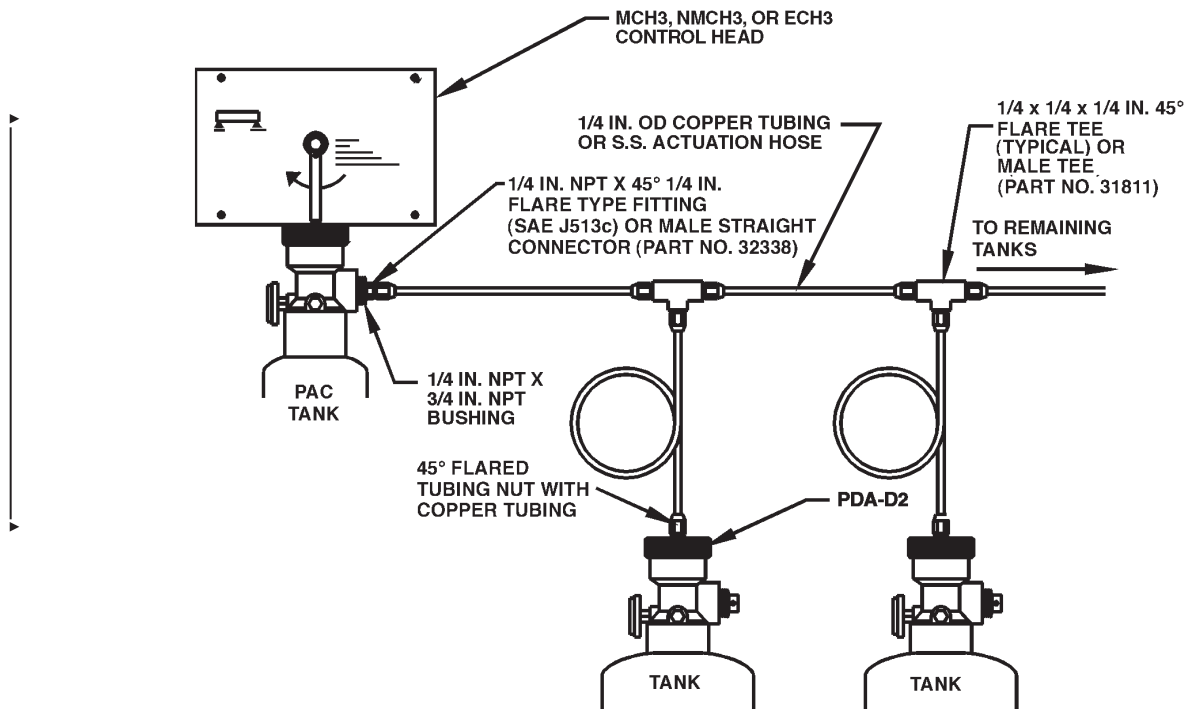

Figure 4-5. Multiple Cylinder Actuation Using Model PAC-10 or PAC-200.
- ▶ In order to actuate the agent cylinders from a Model PAC-10/200 Pneumatic Actuation Cylinder, a 3/4 in. NPT x 1/4 in. NPT bushing must be screwed into the pneumatic cylinder's discharge port. A 1/4 in. NPT x 45° 1/4 in. flare type fitting (conforming to SAE J513c) must then be screwed into this bushing. The male straight connector (Part No. 32338) is used with stainless steel actuation hose. Also, a Model PDA-D2 Pneumatic Discharge Adaptor must be installed on the valve of each agent cylinder. Pneumatic or stainless steel tubing is then used to connect the PAC-10/200 pneumatic cylinder to the PDA-D2 of each agent cylinder valve. See **Figure 4-5**.